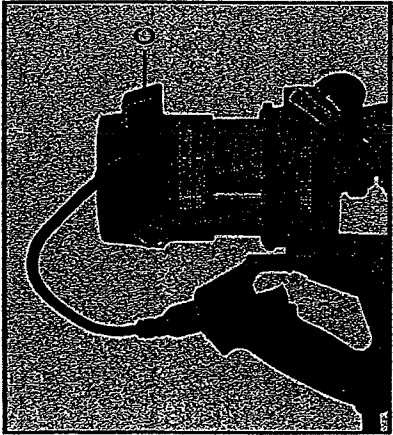

Fig. 4
- is opposite the handle, Fig. 4.
- 5. Connect the motor unit cord to the outlet in handle as shown in Fig. 4.